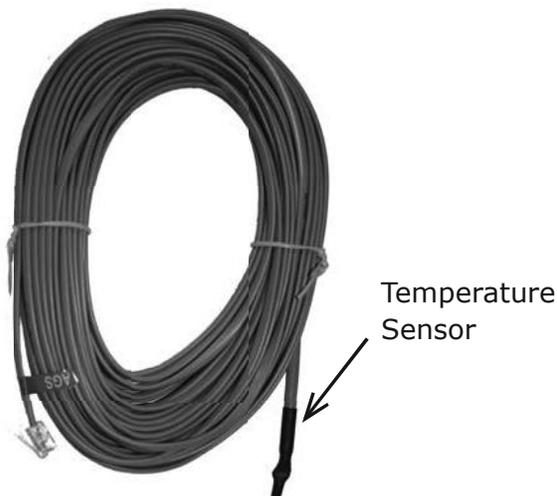

Figure 1-2, Remote Temp Sensor Cable (60 ft.)
- 7 **REMOTE Connection Port (purple label)** – a RJ14 port (6P4C - 6 position, 4-contact female connection) that provides the connection point for the remote temperature sensor cable (see Figure 1-2).